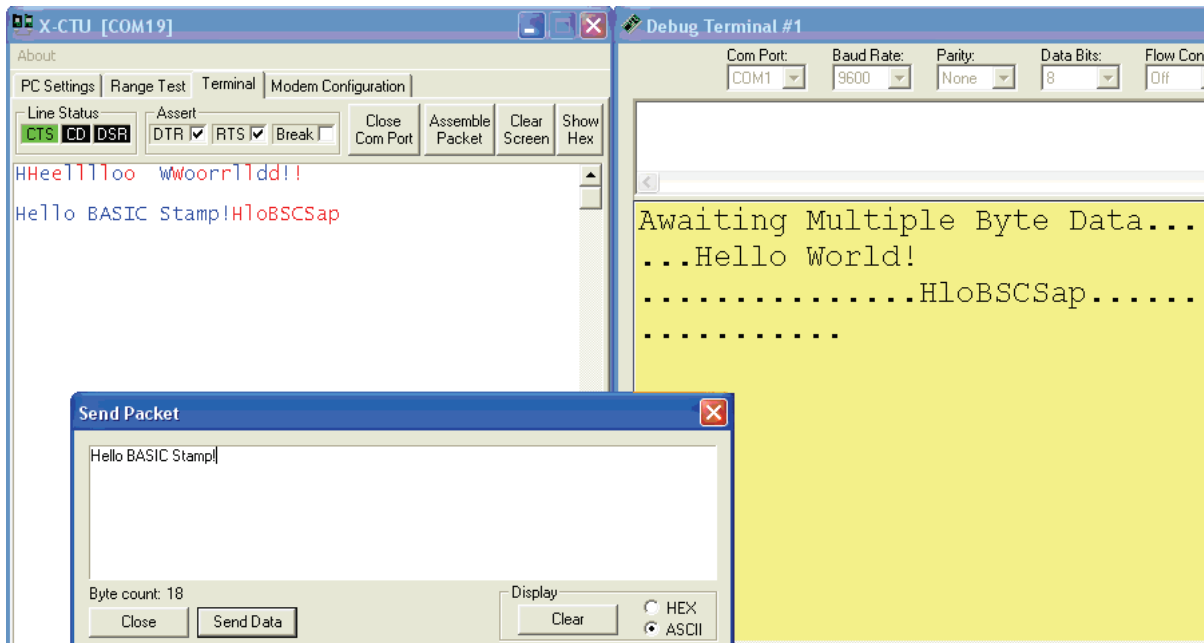

Figure 4-6: Using RTS Flow Control for Bytes Testing
- ✓ Notice, as in Figure 4-6, that when sending data as a packet, only every other byte is accepted and processed.